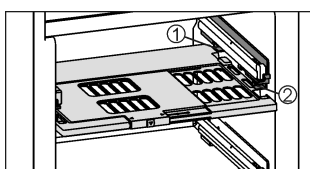

Fig. 6
- ▶ To insert the humidity control plate: Insert the cover mouldings of the plate into the rear holder *Fig. 6 (1)* from underneath and engage them in the holder *Fig. 6 (2)* at the front.